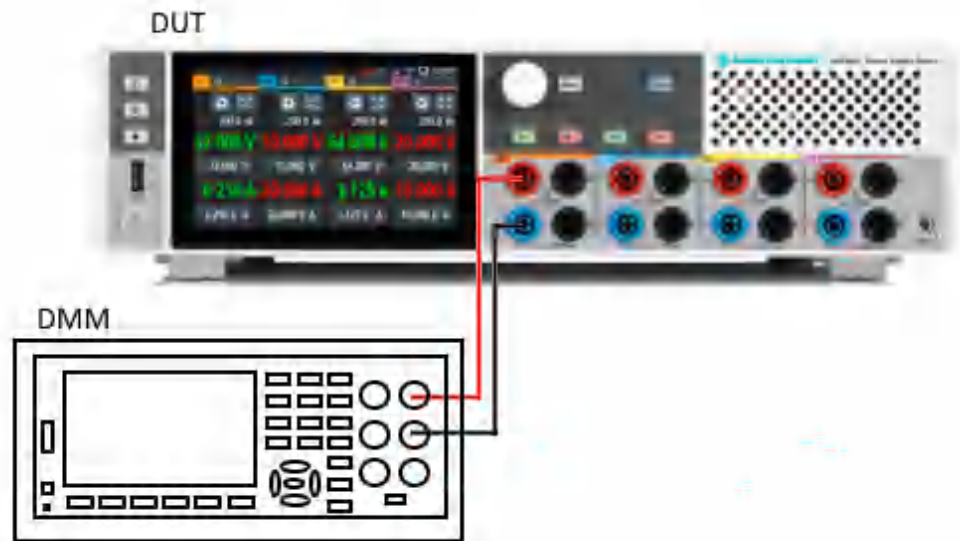
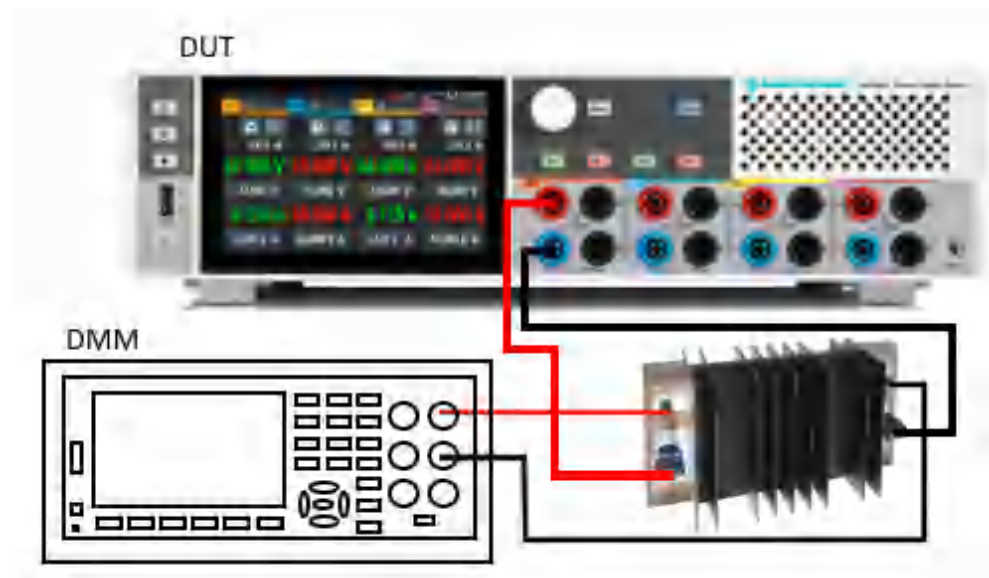

Figure 6-46: Voltage adjustment setup
Figure 6-47: Current adjustment setup
- Connect the DMM to the instrument and monitor the measured voltage or current. See Figure 6-46 and Figure 6-47.
4. Depending on the types of adjustment (voltage or current), setup the instruments illustrated in Figure 6-46 or Figure 6-47.